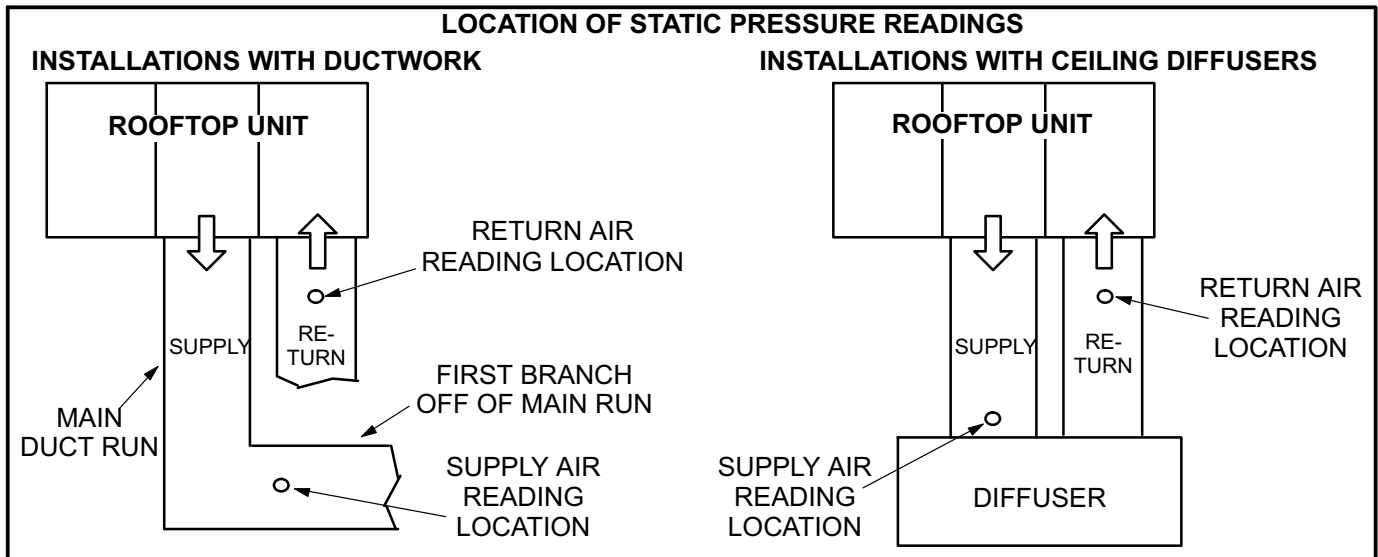

FIGURE 9
- 2- With all access panels in place, measure static pressure external to unit (from supply to return). Blower performance data is based on static pressure readings taken in locations shown in figure 9.